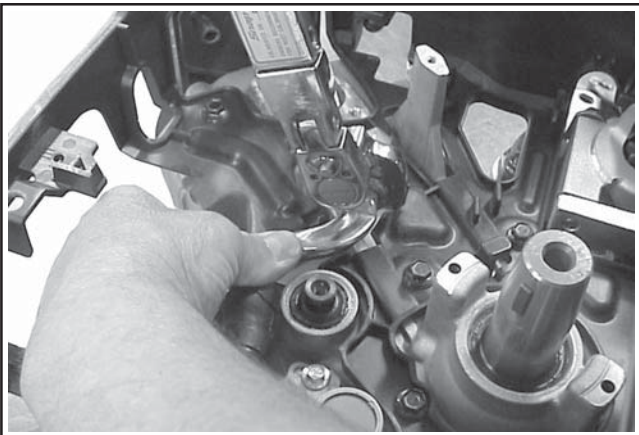

Figure 11-67. Torquing Cap Nut.
9. Push down on the formed tube and hold in this position to prevent it from pivoting upward when tightening the hex. cap. Torque the hex. cap portion of fitting to **22.6 N-m (200 in. lb.)**, to secure the joint connection and lock ferrule to tube. Support the fitting with a wrench while tightening the cap, to prevent applying unnecessary pressure on fitting and joint. See Figure 11-67. Check that the formed tube and hose section to pump have not been pulled up.